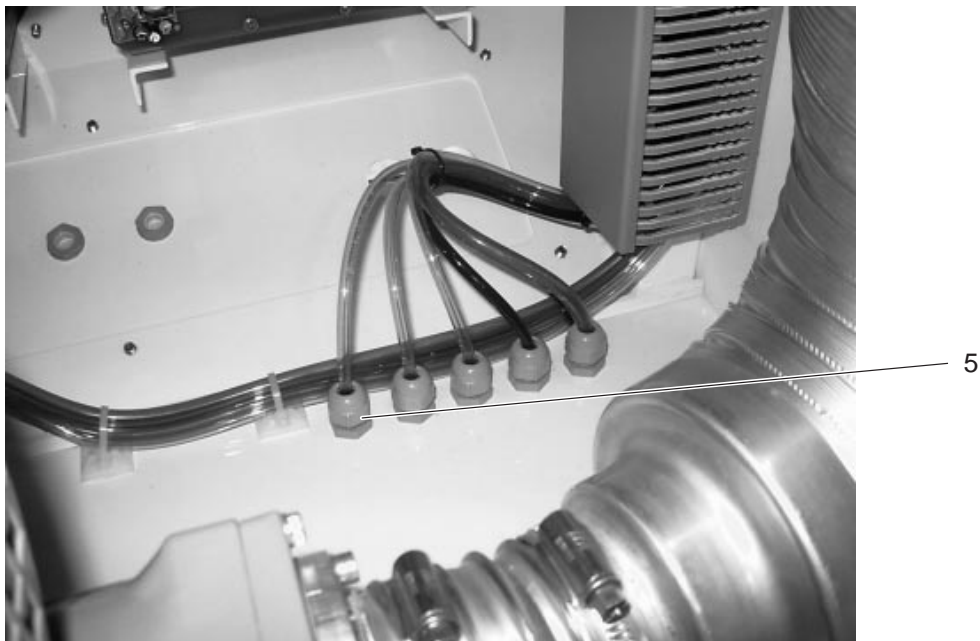

Fig. 3
4. Attach two new solenoid valves (8). To do this, move the valve (6) in that place to the middle valve group and secure with the included screws.
5. Compressed air inlets (10): Connect blue hoses and link to supply line (11). Do this by opening the line between the manifold and the control unit and attaching two Y-pieces.
6. Compressed air outlets (7): Connect red hoses and guide into the filter chamber through the PG fitting (5, Fig. 3).
7. Guide both power cables of the valve plug (9) through an existing PG fitting of the terminal box.